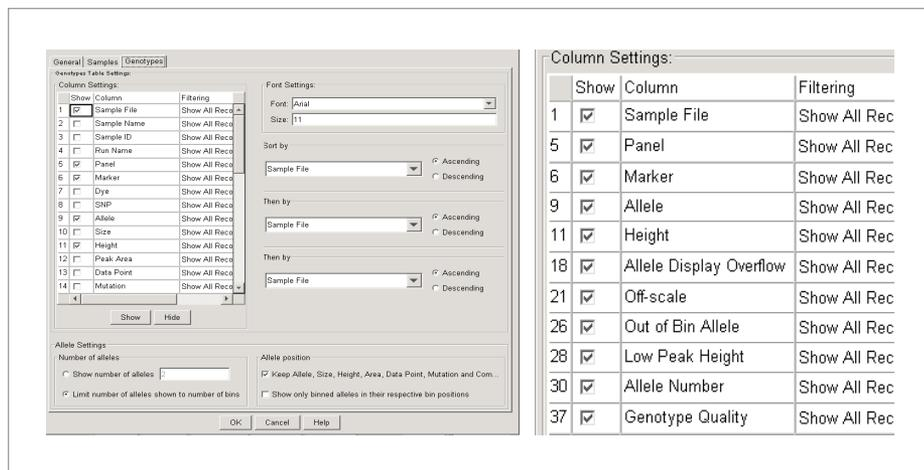

Figure 6. Selecting the Column Settings in the Genotypes Tab.
9. In the Table Setting Editor, select the Genotypes tab and check the Column Settings indicated in Figure 6.